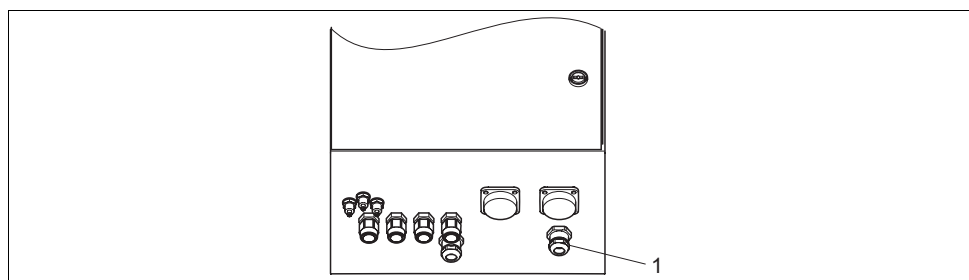

Fig. 21: Guiding the level probe cable
1. Guide the cables of the level probes for the buffer and cleaner through the threefold Pg gland behind the multithose connection (see Fig. 21).